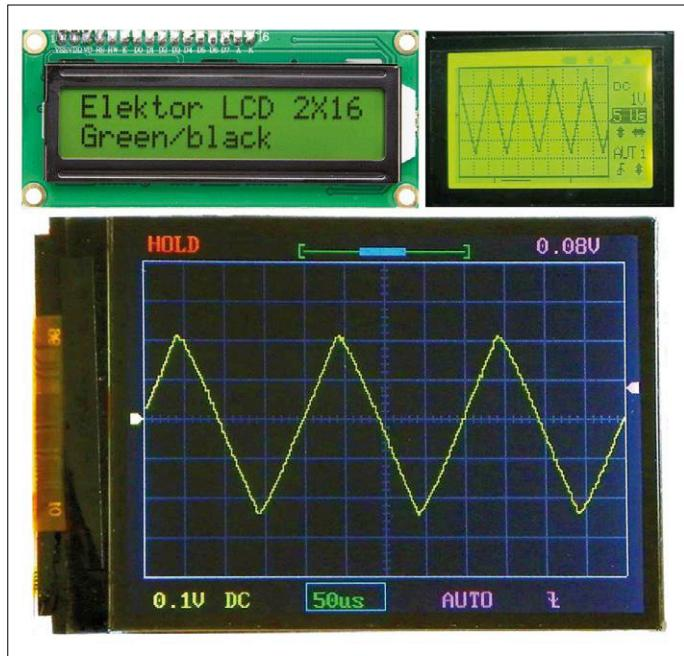

Fig. 2. Alphanumeric as well as monochrome and colour LCDs.
**A** Small LCDs used in Microcontroller projects have been around for years now. This type of display technology is used in a wide variety of applications (**Figure 2**). Elektor has already published a wide range of informative articles on LCDs [2]. These display types can be driven by a range of different controller chips. The simplest displays consist of either two or four lines displaying 12 to 20 characters per line. They can be bought very cheaply and are generally controlled via 4- or 8-bit parallel bus control signals. They have the disadvantage of using up several precious microcontroller I/O pins, cannot display graphics and have a relatively poor viewing angle and contrast. They are however ubiquitous so practically every microcontroller IDE already contains library routines to control this type of basic display.